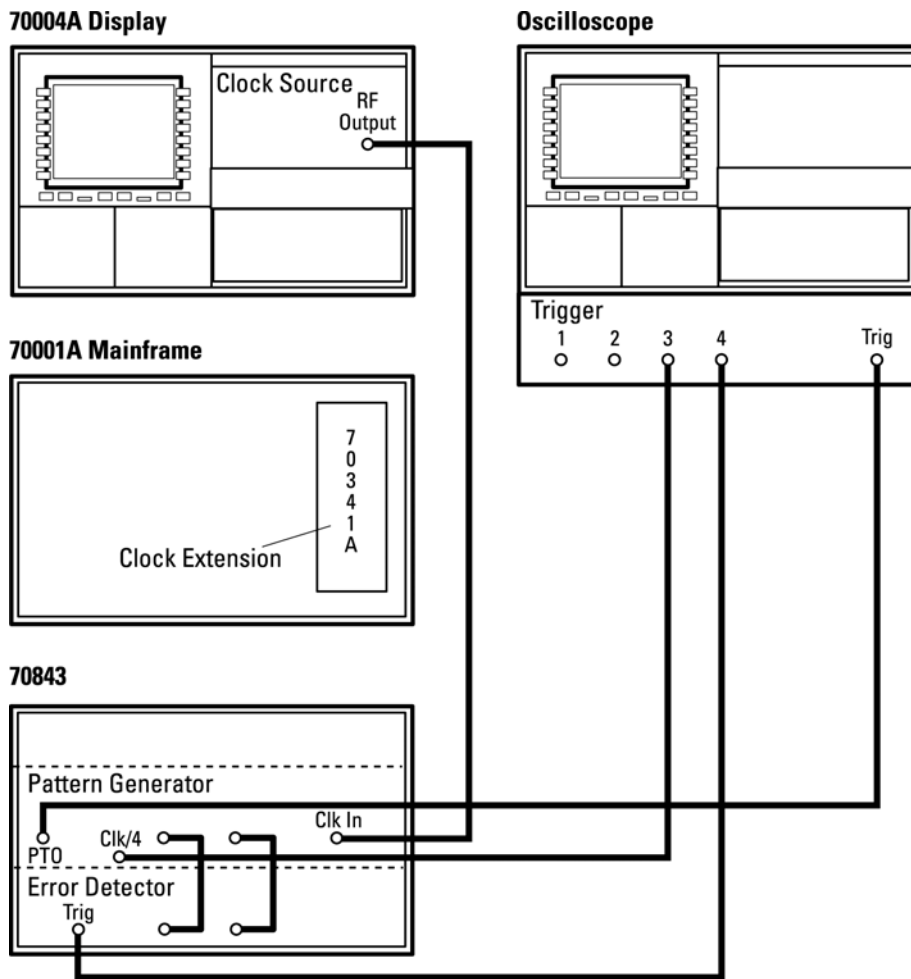

Figure 11-15
1. With the equipment set up as in Figure 11-15, select a fixed error rate of 1E-3.
Configure the equipment as in Figure 11-15.